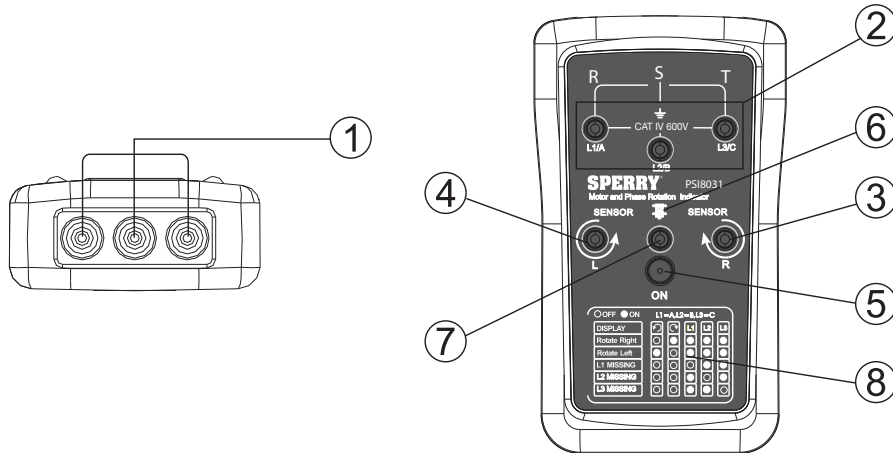

Figure 1
See the instrument indicator, button and jack as shown in Figure 1:
- Place the PSI8031 on the motor case in the orientation indicated by the “Motor location indicator” (See Figure 1). The PSI8031 should be held parallel to the motor shaft with the bottom of the instrument towards the motor shaft (As shown in figure 2)